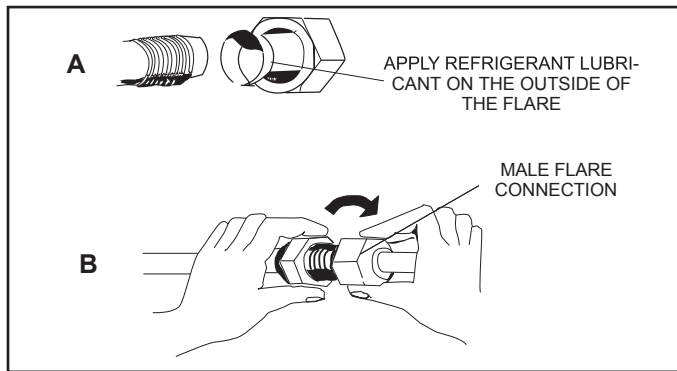

Figure 8. Making Connections at Indoor Unit (Male to Female Connection)
- Apply recommended HFC-410A refrigerant lubricant to the outside of the flared refrigerant lines (Figure 8-A).
- Align the threaded connections with the flared refrigerant lines. Tighten the flare nuts lightly at first to obtain a smooth match (Figure 8-B).